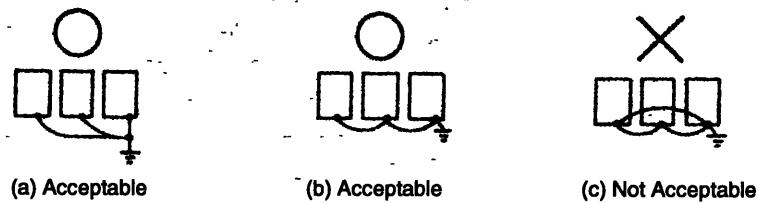

Fig. 22 Grounding of Three Inverter Units
- When using several inverter units side by side, ground the units as shown in Fig. 22, (a) or (b). Do not loop the ground wires as shown in (c).